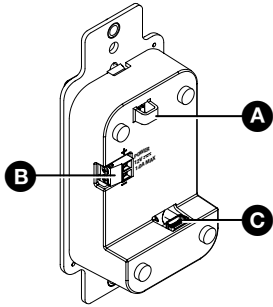
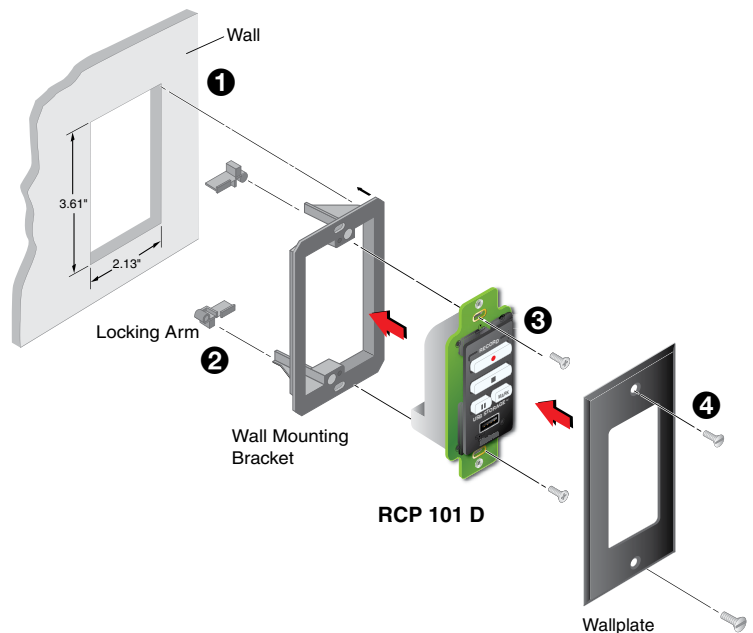
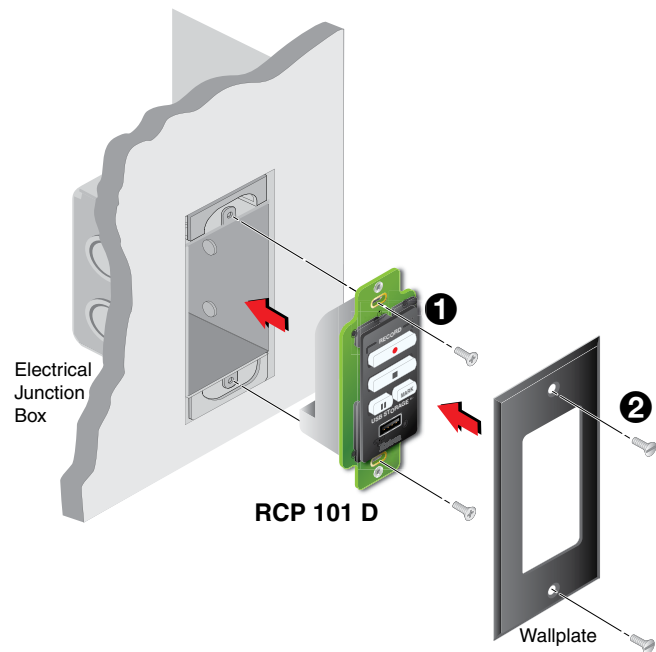

Figure 2. RCP 101 D Rear Panel (Shown without Wallplate)
Figure 4. Mounting with a Wall Mounting Bracket
Figure 5. Mounting with an Electrical Junction Box
If you need to remove the RCP 101 D from the wall, you can do so by reversing the steps shown in figure 4 or figure 5:
2. Undo the two screws securing the faceplate to the control plate and remove the wallplate (figure 5, 2).
3. Undo the two screws securing the control plate to the wall mounting bracket or the electrical junction box (1).
4. Remove the power cable (figure 2, B) and the USB cable (C). If necessary, cut the zip tie securing the USB cable to the cable anchor (C).